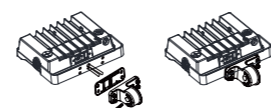

figure 8.2
Step 2: Put the core wire through the waterproof rubber plug, through the bracket fixing seat and match with the waterproof rubber plug. (figure 8.2)